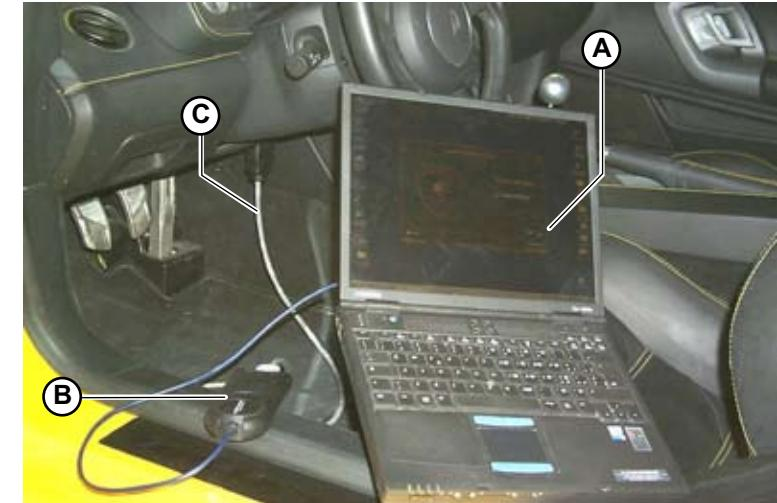

Fig.1
- Switch on the PC (**A-Fig.1**);
- connect the adapter (**B-Fig.1**) to the PC com port;
- connect the adapter to the OBDII connector (**C-Fig.1**) in the car, located on the right of the steering column.